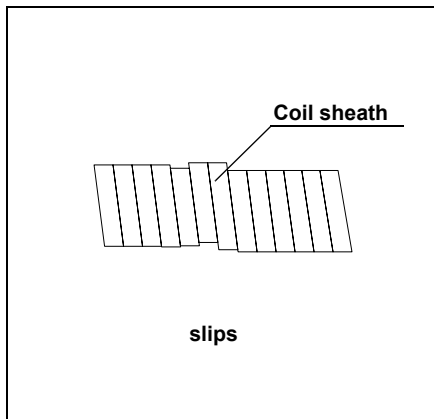

Figure 3.2
2. Gently run your fingertips over the entire length of the insertion portion to check for any slips, the bucking and collapse broken areas or other damage (see Figure 3.2, 3.3).